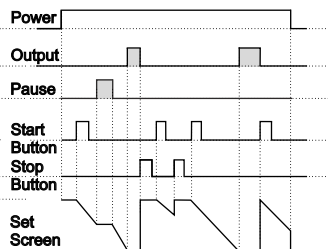

Figure 2.2
2.2.2 If Downcount **Decr**=1 and **OutF** is **Off** the control diagram is shown in Figure 2.2